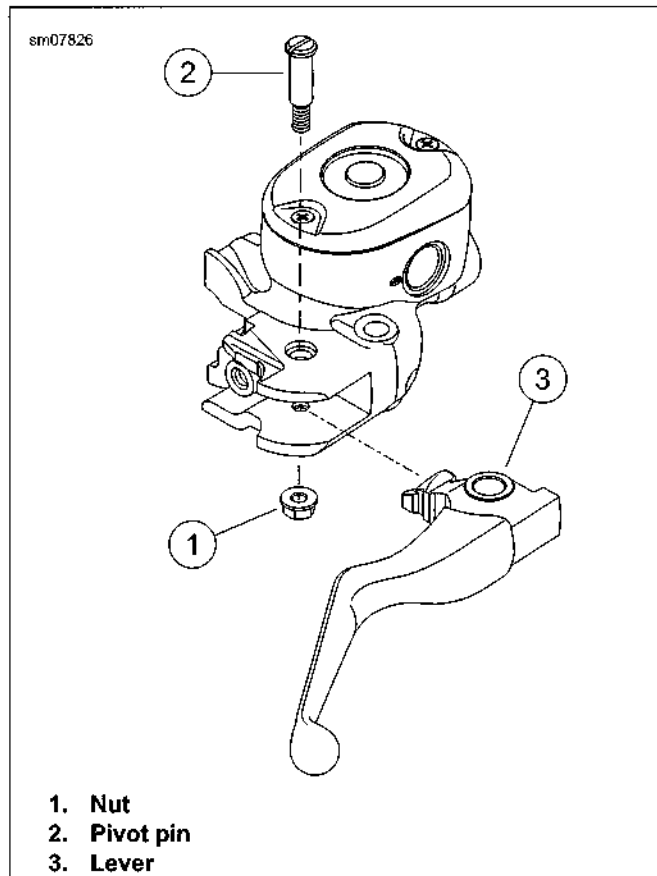

Figure 2-49. Front Brake Lever
1. See Figure 2-49. Remove the nut (1) and pivot pin (2).
2. Remove the brake lever (3).